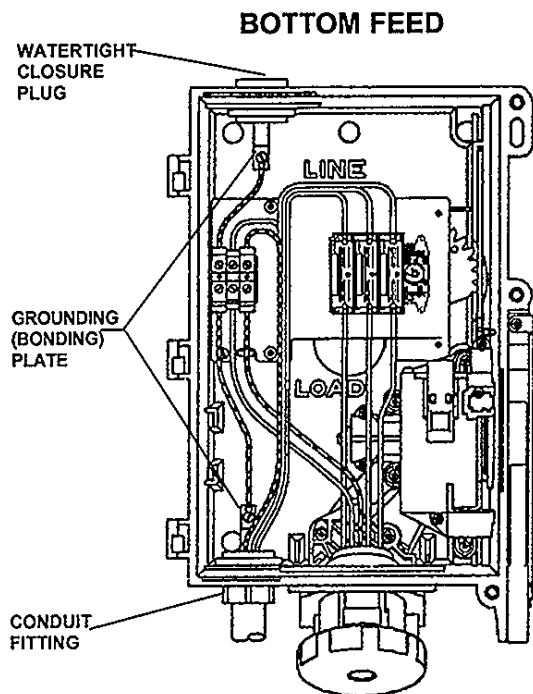

FIG. M3
8. **BOTTOM AND BACK FEED:** See figures M3 and M4.